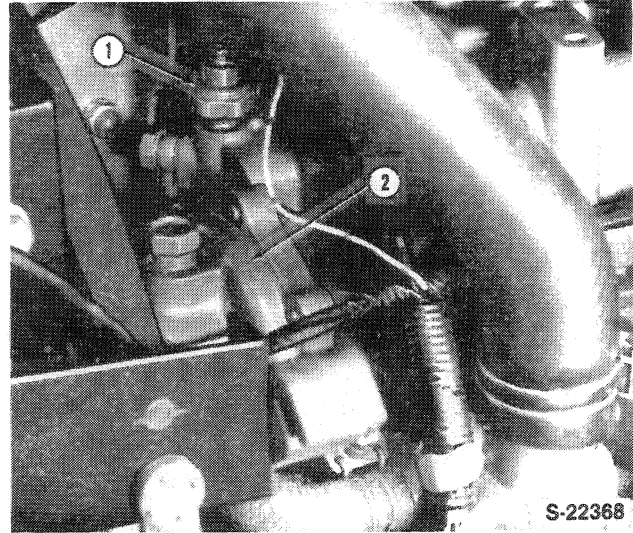

Figure 7
- 10. Remove the oil sender switch from the front of the cylinder head, Figure 7.
- 11. Remove the water pump assembly, Figure 7.